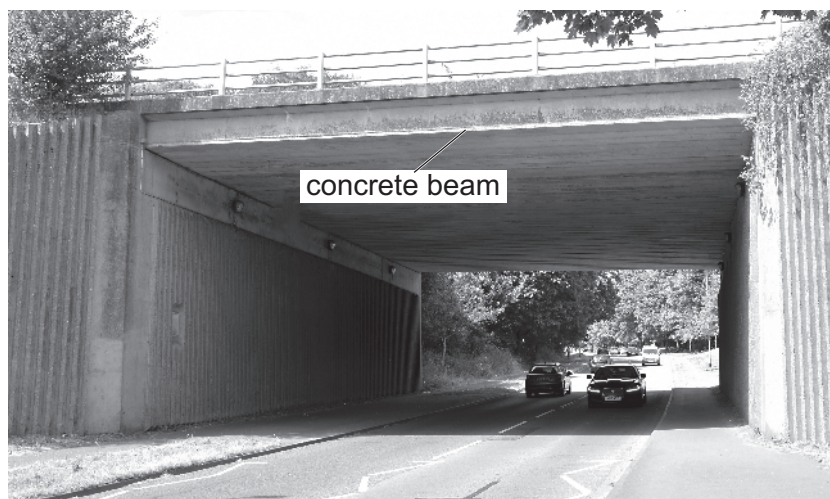

Fig. 3.1
- 3 (a) Fig 3.1 shows a concrete beam used in a road bridge.